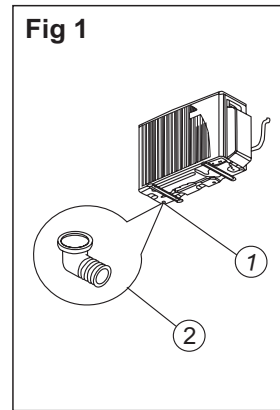

Fig.2
7. When the unit is installed on a wall, install the drain connector hose and drain plug as shown in fig 1 and fig 2.